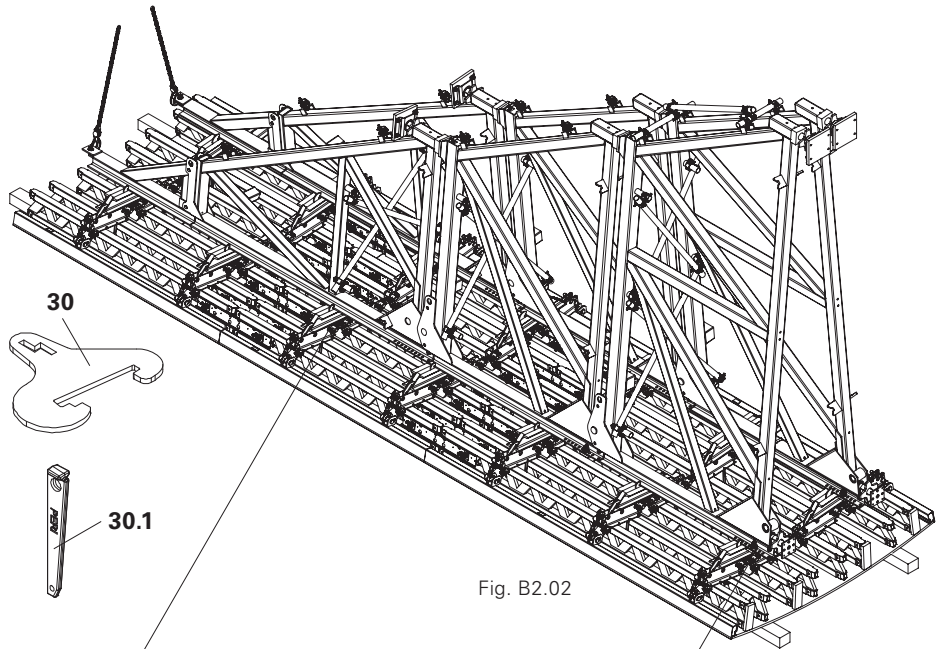

Fig. B2.02
5. Fix Waler Connectors with Wedge K (30.1) starting from the bottom. (Fig. B2.02 - B2.02b)